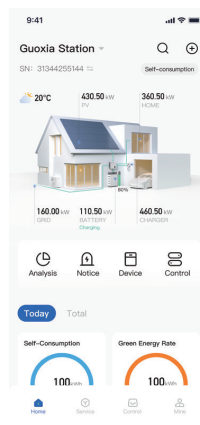

Fig. 11
- If you want to set up the inverter remotely, enter the "Home" page, select the device you want to control, and click "Control" to operate the device remotely. As the following fig. 11.